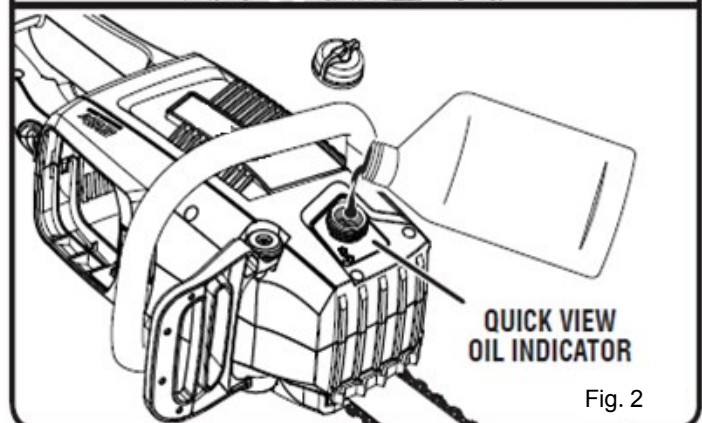

Fig. 2
- ⚠ **NOTE:** Remove battery pack from unit. Fill oil tank with bar and chain lubricant (not provided) before starting the chain saw. Failure to lubricate the chain will cause damage to the bar and chain. (Fig 2)
## CHAIN OILING SYSTEM (Fig 2)